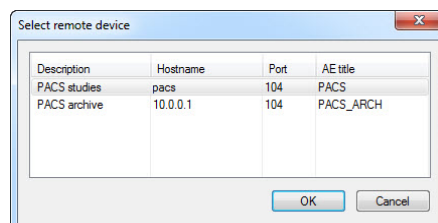

Figure 108 – Select remote device dialog
- Push the **Add to worklist** button to add the study to the patient worklist (see Figure 108).
Patient data can be sent over the network to any PACS server or another DICOM data storage device. On the **Local studies** tab of the **Search studies** dialog, select the study and push the **Send** button. If multiple remote devices are available and defined, the **Select remote device** dialog (see Figure 108) is displayed in which you specify the target device. Select the desired remote device and push the **OK** button. The study will be sent. To define the DICOM data source, go to the **TomoCon options** dialog (see 4.10.5 Remote DICOM devices).